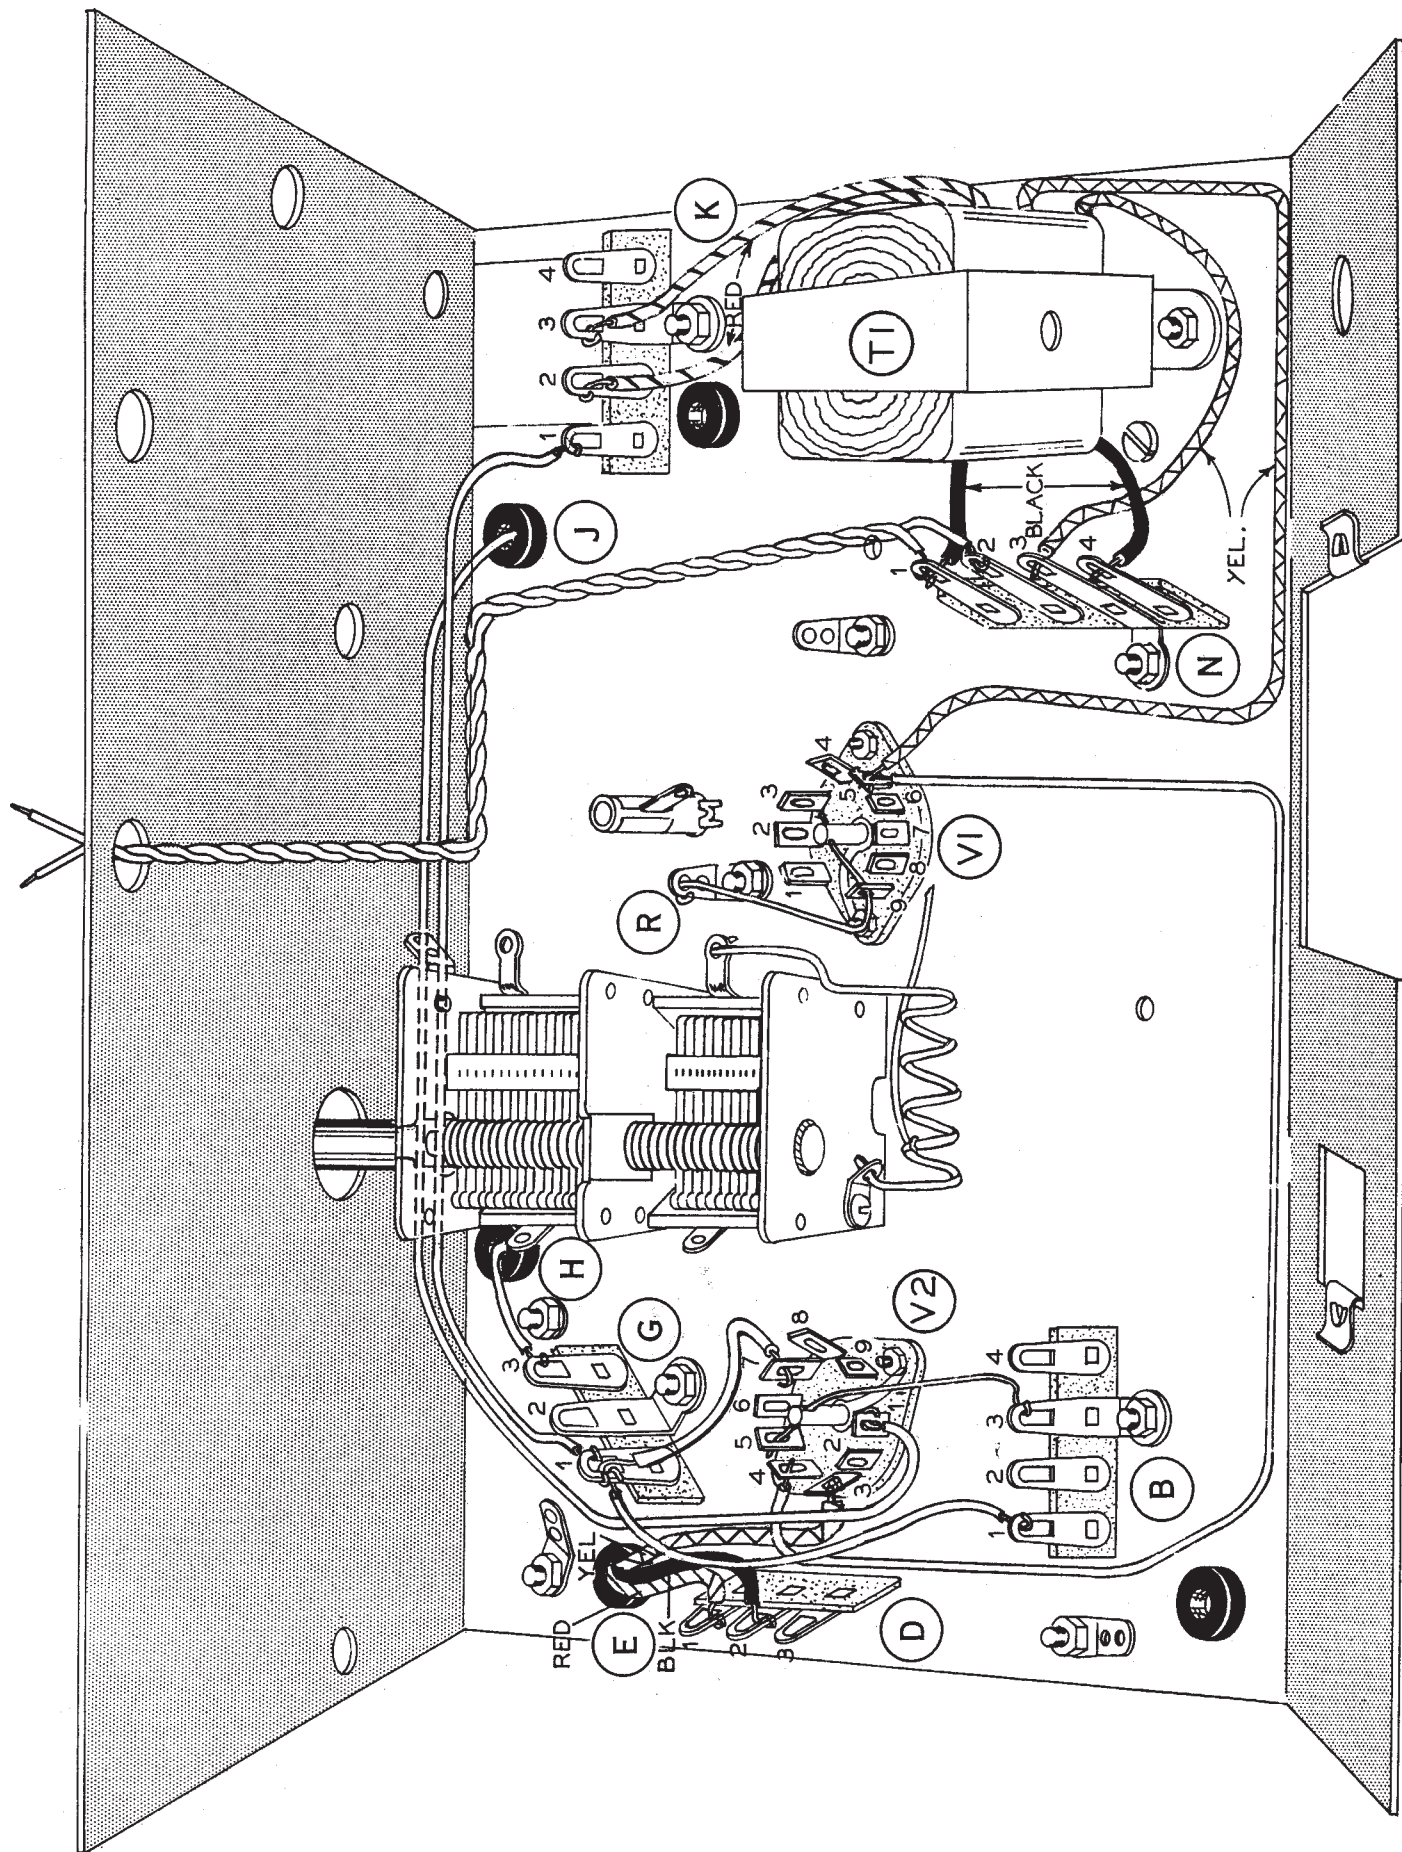

Figure 3
- ( ) Refer to Figure 3 and feed the three wires from transformer T2 through Grommet E. Connect the yellow wire to pin 3 (NS) of tube socket V2.
- ( ) Connect the black wire to lug 2 (NS) of terminal strip D.
- ( ) Connect the red wire to lug 1 (NS) of terminal strip D.
- ( ) Connect the long yellow wire from the power transformer T1 to pin 5 (NS) of tube socket V1. Dress wire as shown.
- ( ) Connect the short yellow wire from T1 to lug 3 (NS) of terminal strip N.
- ( ) Connect one of the black wires from T1 to lug 1 (NS) of terminal strip N.
- ( ) Connect the remaining black wire to lug 4 (NS) of terminal strip N.
- ( ) Connect one of the red wires from T1 to lug 2 (NS) of terminal strip K.